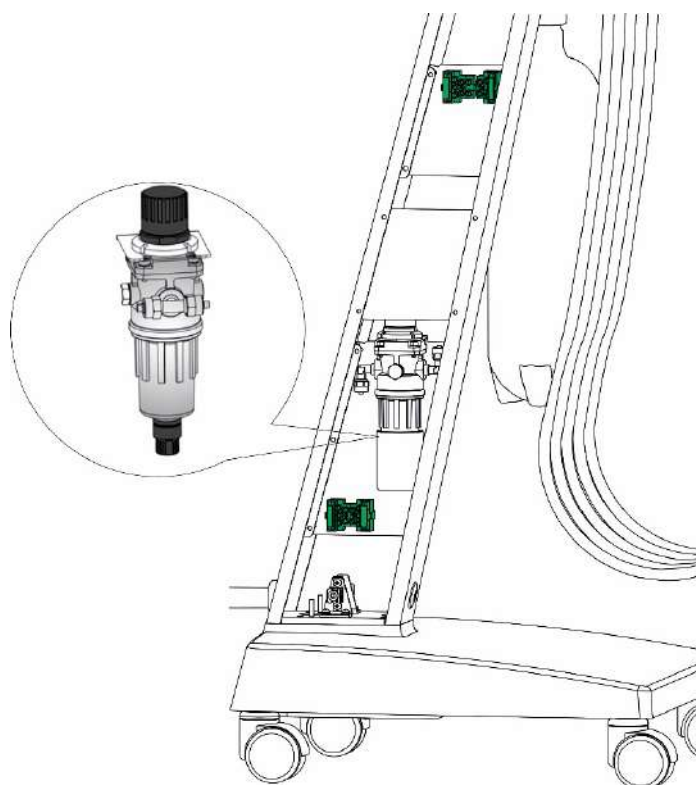

Figure 5.4.1
- turn the filter valve according to Figure 5.4.1.